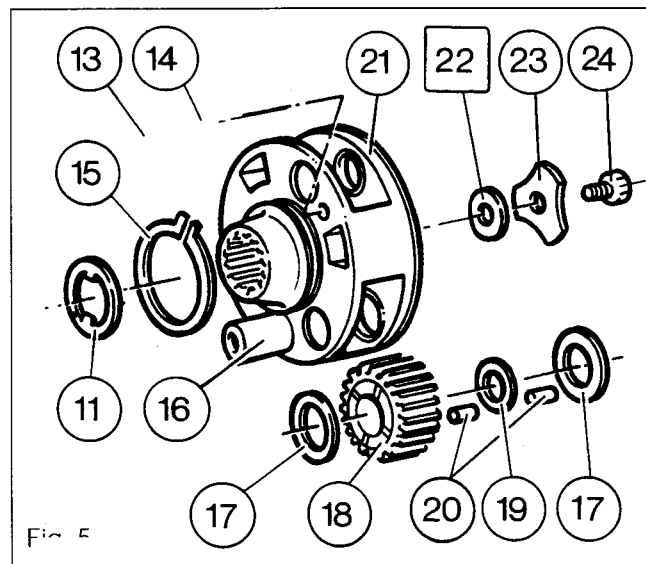

Fig. 5
2. Remove the bolt (24).
3. Remove the retaining washer (23) and the shim(s) [22] (Fig.5).